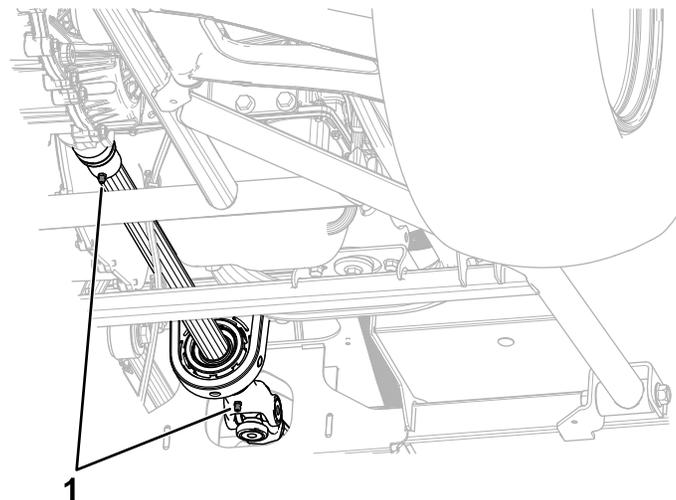

Figure 27
- **Driveshaft (2)**; refer to Figure 27